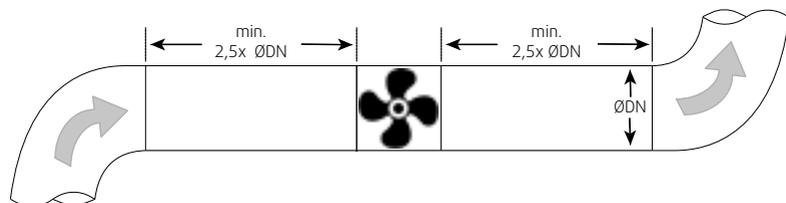

fig 4: installation
- » Directly before and after the fan you have to install straight ducts. Regarding duct installation, please pay attention to the following figure (fig. 4).